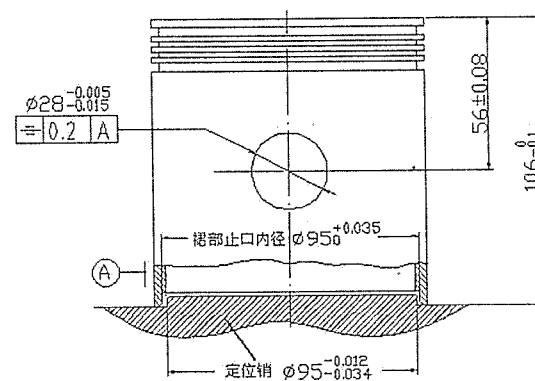

Figure 2
7. Figure 2 is a machining and positioning diagram of piston and pin hole. The piston has a full height of $106_{-0.1}^0$ mm, pin hole position of 56 ± 0.08 mm and symmetry requirement of 0.2mm. Please analyze (16 points):